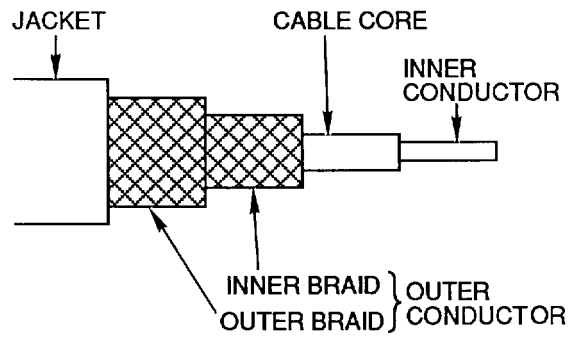

Figure 5. Double Shielded Coaxial
d. **DOUBLE SHIELDED.** A double shield is often used when improvements over single shielding are required. This cable has a second shield braided over the first with no insulating barrier between them (Figure 5).